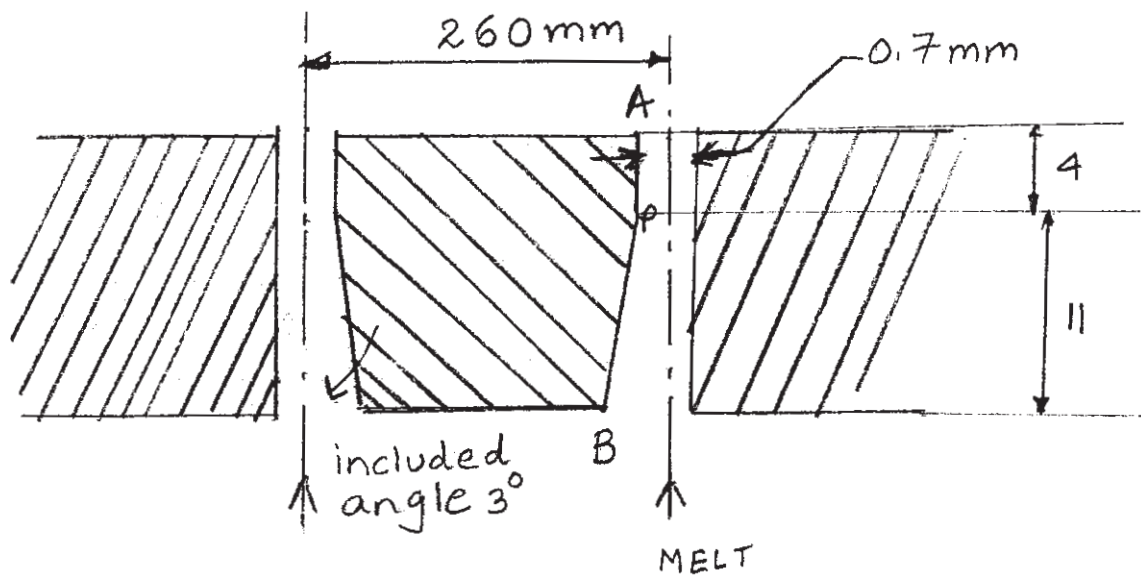

FIG. 3
b) Calculate the pressure drop between the points A and B for the exit region of a blown film die shown in fig 3. Using the following data